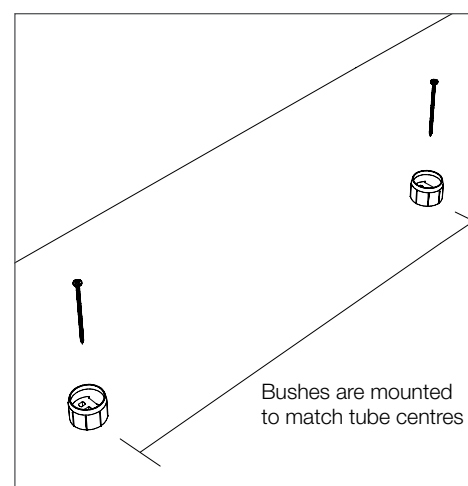

Fig 2.0
- To support the bottom of the rail 2 polycarbonate bushes are fixed to the floor. The position of the bushes must match the holes drilled for the top rails so the rail is perpendicular to the floor once secured. See Fig 2.0